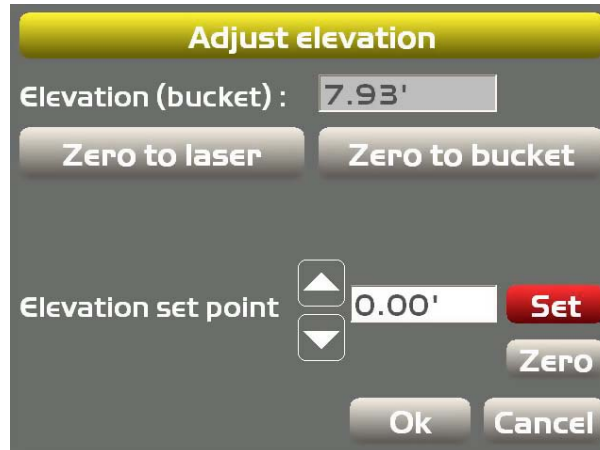

Figure 80: Zero to Laser
- Starting with the LS-B10W above the reference laser height, lower the boom to position the LS-B10W in the laser beam. The **Zero to laser** function becomes available. Tap **Zero to laser** (Figure 80).
- Starting with the LS-B10W below the reference laser height, raise the boom to position the LS-B10W in the laser beam. The **Zero to laser** function becomes available. Tap **Zero to laser** (Figure 80).